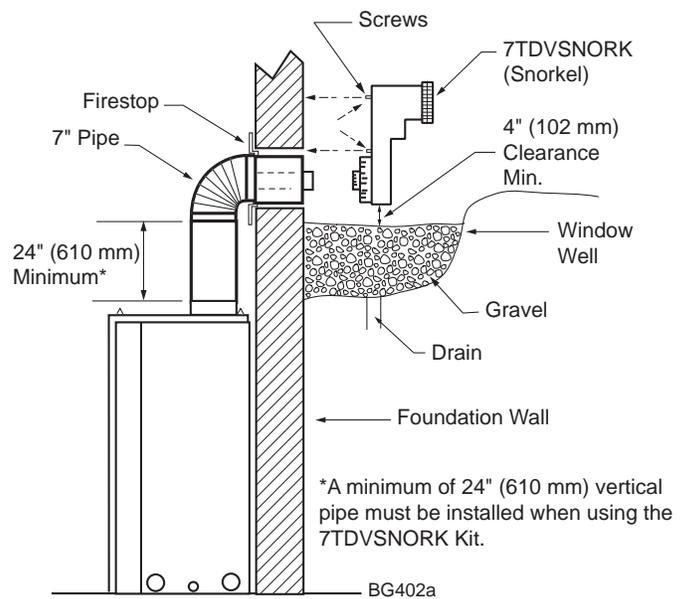

Figure 41 – Below Grade Installation
2. Remove soil to a depth of approximately 16" (406 mm) below base of snorkel. Install drain pipe. Install window well (not supplied). Refill hole with 12" (305 mm) of coarse gravel leaving a clearance of approximately 4" (102 mm) below snorkel. Figure 41
7. Level the soil so as to maintain a 4" (102 mm) clearance below snorkel. Figure 41